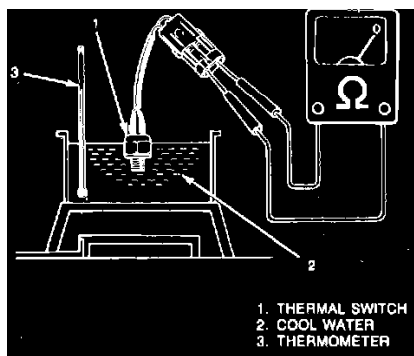
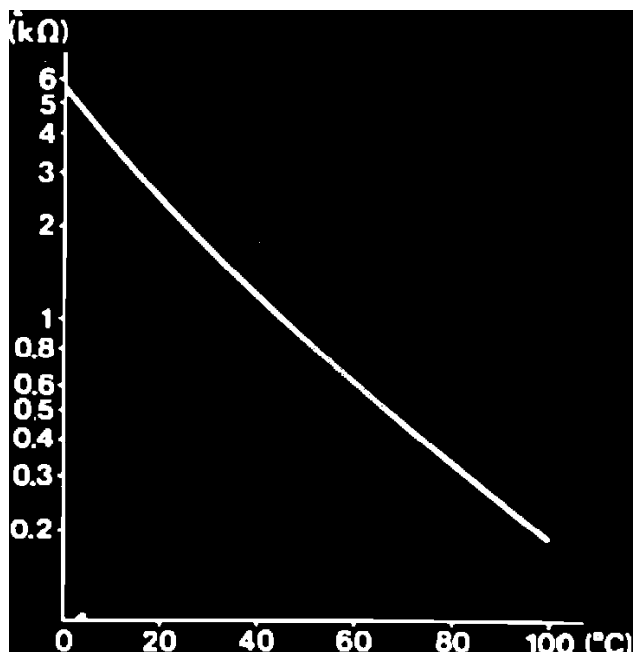

Fig. 17 Coolant temperature thermal switch test. Low temperature
Fig. 46 Coolant temperature sensor, temperature-to-resistance curve. 1987 - 88 models
3. Connect temperature sensor to a suitable ohmmeter, then immerse temperature sensing part into water and read resistance on ohmmeter while slowly raising water temperature, **Fig. 17**. Temperature to resistance relationship should be as shown, **Fig. 46**.